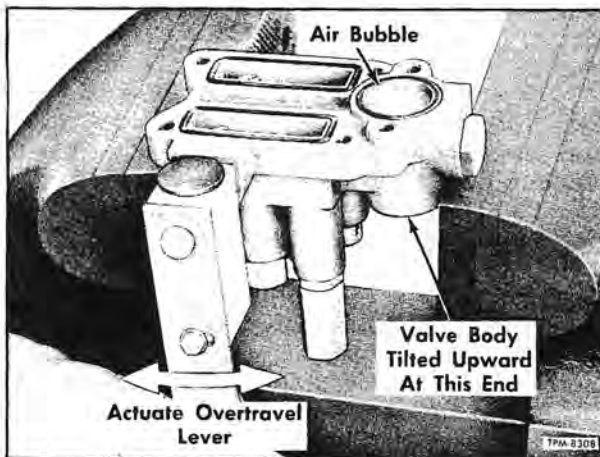

Figure 31—Venting Air From Silicone Fluid
2. Pour  $5.5 \text{ cc} \pm 0.25 \text{ cc}$  of Silicone fluid (750 Centistokes viscosity at  $25^{\circ}\text{C}$ ) into delay piston bore. With valve body tilted slightly as shown in figure 31 carefully operate overtravel lever fore and aft to vent air from fluid. When all air has been expelled from piston pin cavity, check fluid level using depth gauge as shown in figure 32.